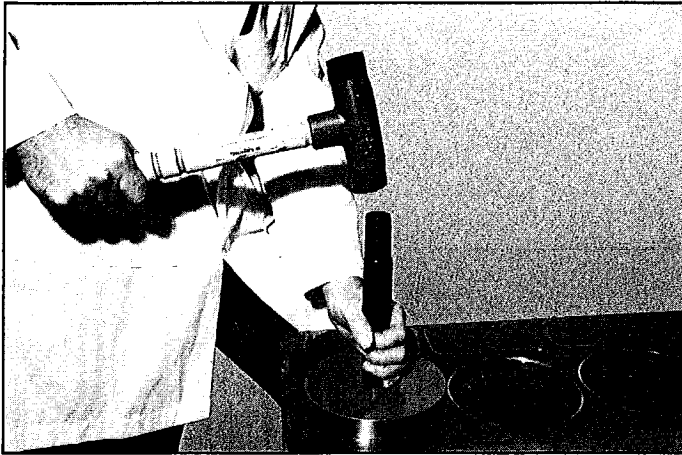

Figure 20
2. Lightly coat the inside diameter and bottom of newly cut bore with PT 7260 Loctite Compound. (See Figure 18) Insert bushing on driver. (See Figure 19) Using hammer and the bushing driver assembly install bushing into bore until it bottoms. A solid sound can be heard when bushing bottoms. (See Figure 20)